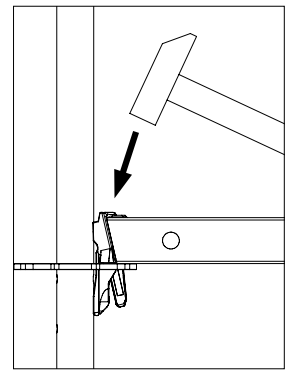

Fig. A4.03
4. Securely fix wedges of all ledgers using a 500 g hammer. (Fig. A4.03)